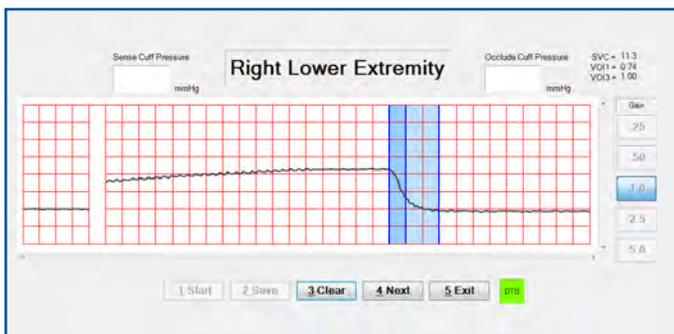

FIGURE 2.11 - Trace and Baseline
13. When the trace returns to baseline (Figure 2.11), the waveform will automatically stop within 10 seconds. A marker will appear on the screen indicating the release of the occlusion cuff. If the users clicks “Stop”, the test will be aborted.